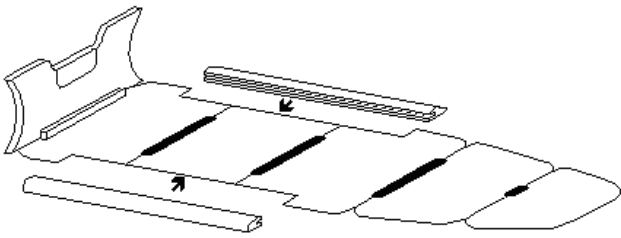

Fig.10
6.9. Set the lateral beams in the cut-outs provided on segments No.5, No.4, No.3 (Fig.10). To do it, place the beam in the boat from one side in opposition to the cut-outs, hook the boarding edge with the beam from below and make a pushing motion from top to bottom and forward. Thereat, you may hold up the floor edge from below through the bottom. Check to ensure that the beams do not "catch" the balloon. The segment edges should enter the beam cut-outs tightly.